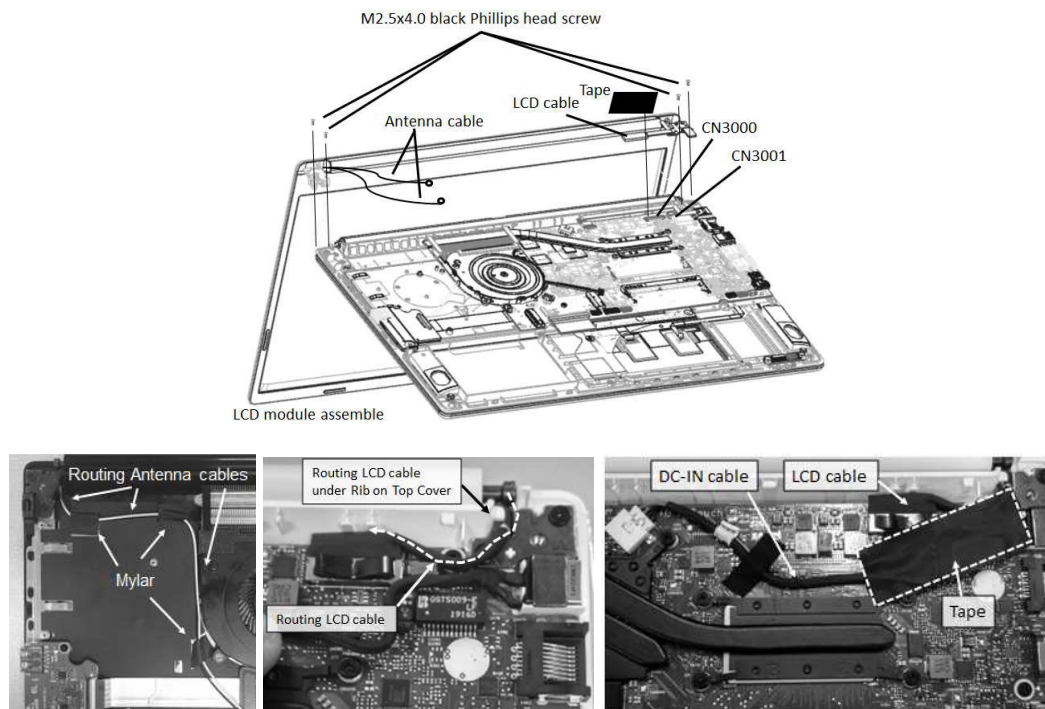

Figure 4-11 Removing the LCD Module assembly
Remove LCD Module Assembly according to the following procedures and Figure 4-11.
Install the LCD Module Assembly according to the following procedures and Figure 4-11.
5. Route LCD cable according to Figure 4-11, need to under Rib on Top Cover.